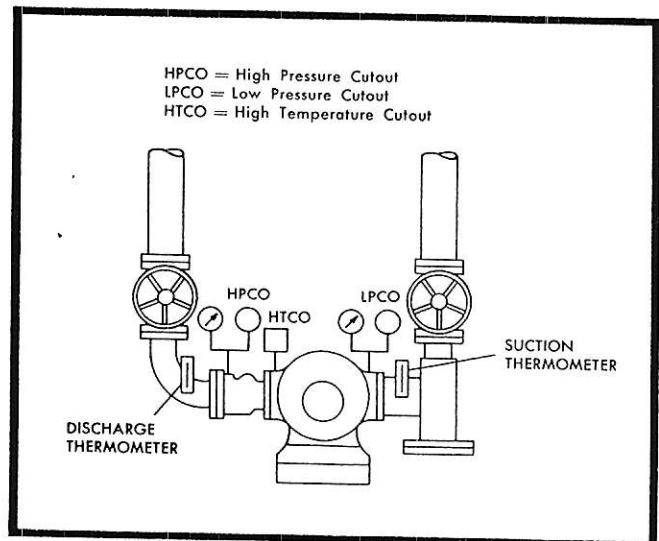
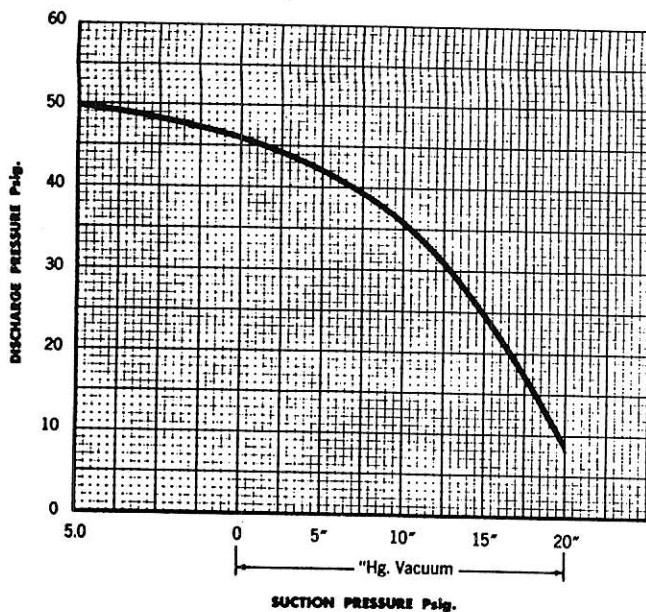

Fig. 4 Rotary safety controls.
Fig. 6 Suction and discharge pressure limitation chart.
The affect of high compression ratio and refrigerant suction gas superheat on compressor discharge temperature can be illustrated by reading pressure gauges and thermometers at locations shown in Fig. 4.
Curve in Fig. 6 shows maximum recommended discharge pressure to be maintained on rotary booster for a given suction pressure. Operation above discharge pressure limits will cause booster to exceed 300°F. discharge temperature limitation.
Suction and discharge pressure limitations shown in Fig. 6 are based upon 40°F. suction superheat for all suction pressures above 8.7" V. Below this point a constant suction temperature of 0°F. is assumed. When suction superheat exceeds these values, the allowable discharge pressure is lower than limits shown on curve.
Safety controls, thermometers and gauges are required for proper operation and control of this booster compressor. Recommended locations for these are shown in Fig. 4. All are mounted as close to the compressor as possible to sense closed valves or dirty strainer. Space does not permit mounting a thermometer at the discharge flange of the compressor, the point at which discharge temperature must be measured. Therefore, 15°F. must be added to indicated temperature for each foot distance between thermometer and flange. Pressure gauge connections may be made at taps indicated for pressure switches, or in mains. Connections to pressure switches must be installed without valves. These switches must be set to stop the compressor within the limits of pressure shown in Fig. 6. Serious overheating and damage to parts will result from failure to follow this practice. High Temperature Cutouts are factory set to open at 300°F. This calibration must be checked and maintained.
- Compressor discharge gas temperature must be limited to 300°F. maximum at the cylinder discharge flange. If this temperature is excessive, compare operating conditions with Fig. 6. Also, check the evaporator for light load and the suction line for high superheat. The suction line must be thoroughly insulated.